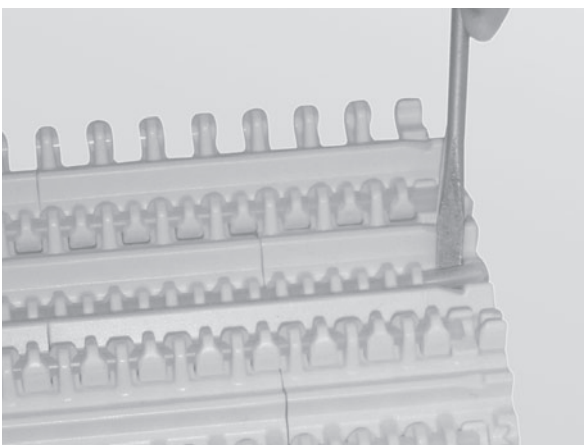

Figure 55
1. Place the edge of a flat head screwdriver between the two belt links and turn clockwise (**Figure 55**).